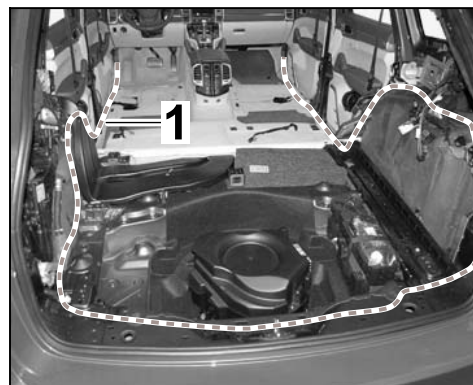

Figure 19
3.2 Route electric wire harness ⇒ *Figure 19 -1-* as follows.